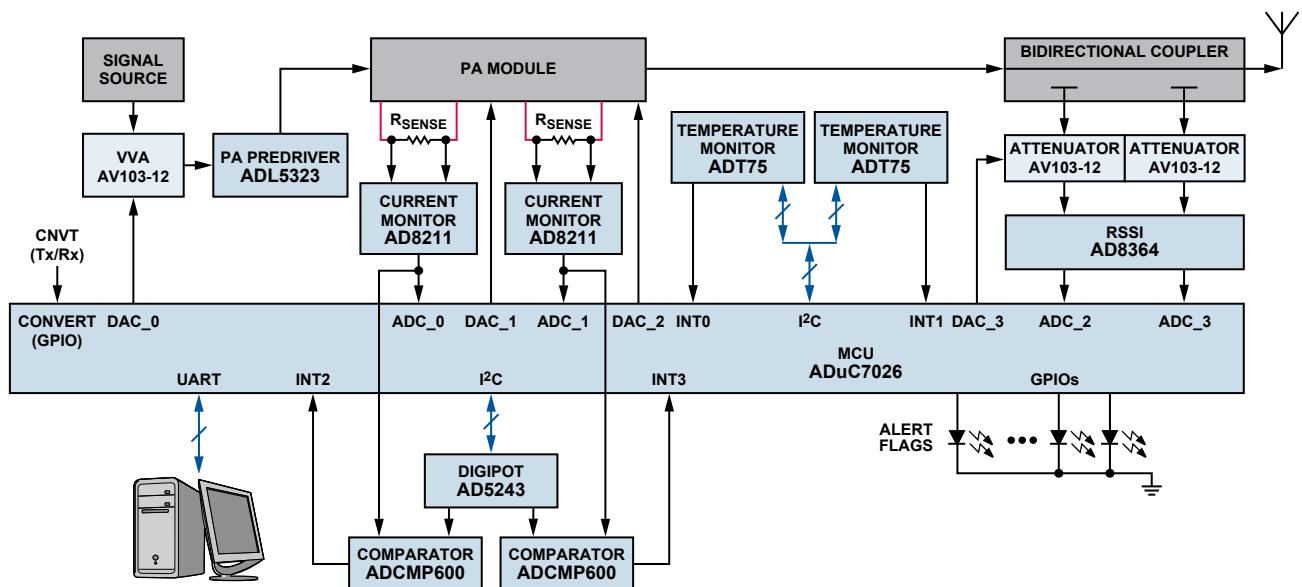

Figure 1. System block diagram.
Figure 1 shows the block diagram of the PA monitor. The RF signal passes through the voltage-variable attenuator (VVA), the ADL5323 predriver, the power amplifier, and the bidirectional coupler before it is transmitted by antenna. The ADuC7026 MCU samples the temperatures and currents of the two LDMOS stages in the PA module, as well as the forward- and reverse power of the PA module. The MCU sends the sampled data to the PC for display in the user interface (UI). The operator can adjust the system parameters through the UI.